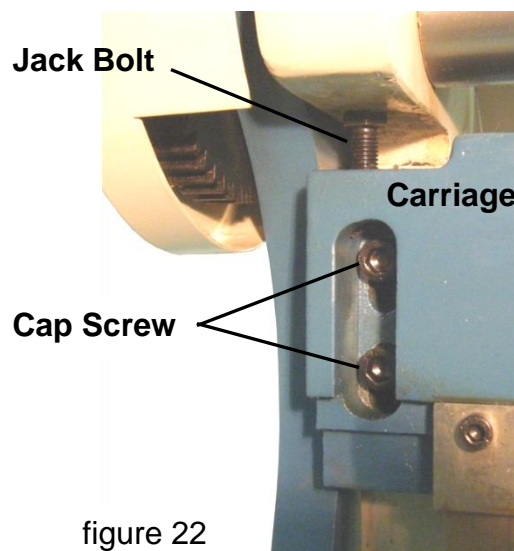

figure 22
6. If you notice a gap at one end of the brake, loosen the (2) carriage lock capscrews at that end (fig. 22), and adjust the jack bolt until the brake blades just touch the pipe.